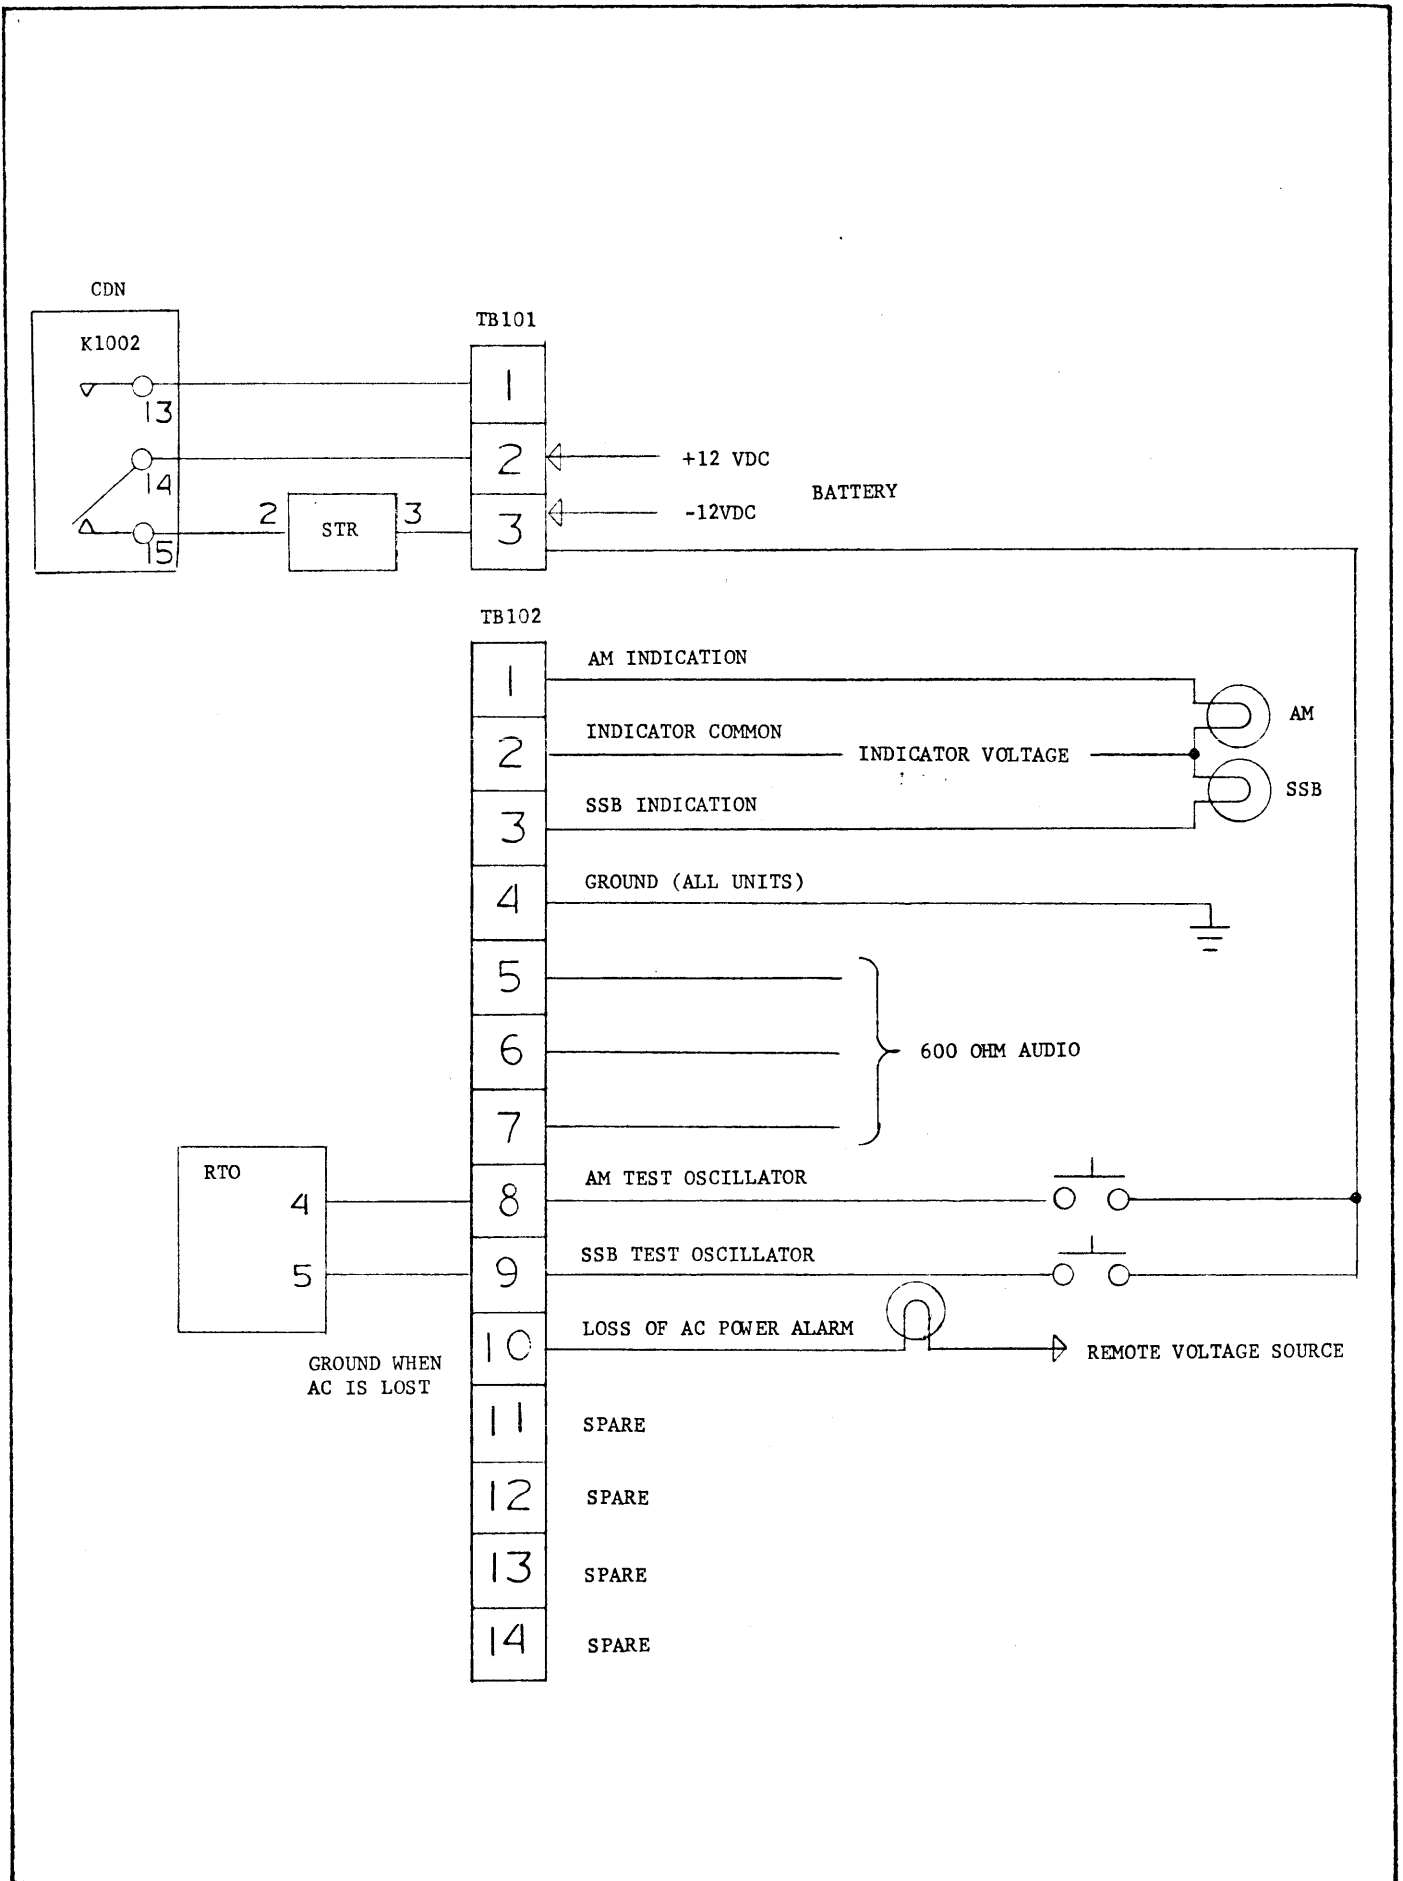

Figure 2-6. External Connections
(6) Connect ac power to the rack.
(7) Connect an antenna to the ANT (J1) input of the HFD-1S. A plug (UG88/U) is furnished as a loose item to be used if needed for making the correct connection to the customer furnished cable.
(8) Make external connections, as required, for each receiving channel as follows (refer to figure 2-6):